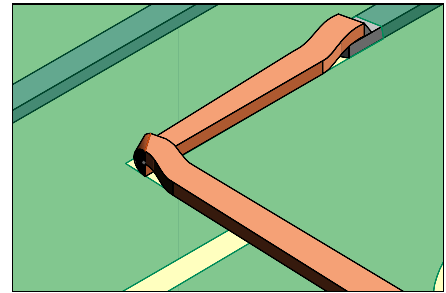

Figure 4: Wide circuits that cannot be easily formed may be folded over to produce a sharp bend.
15. Wide circuits that cannot be easily formed may be folded over to produce a sharp bend. (See Figure 4).